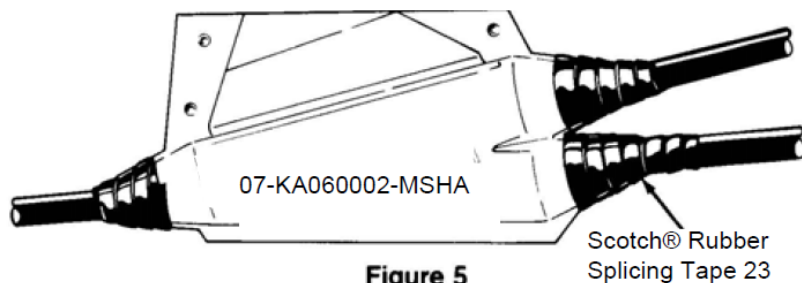

Figure 5
2. Center mold over splice and tape into place by applying Scotch® Rubber Splicing Tape 23 (provided in kit) over the mold ends and onto the cable. (Figure 5)